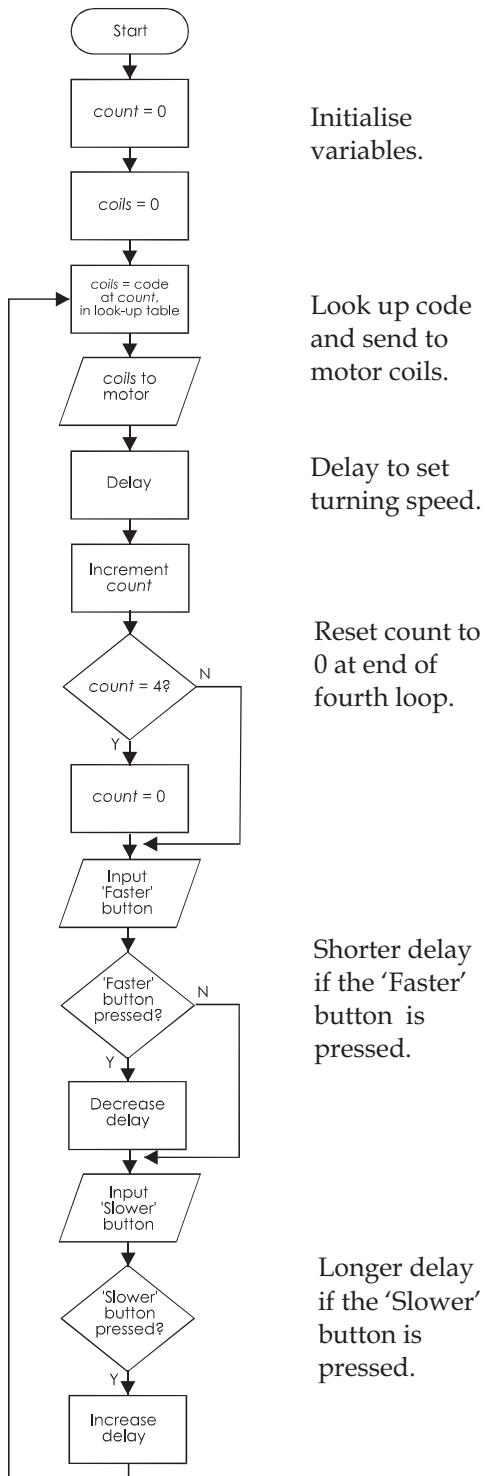

FIGURE 38.21 A routine to control the speed of a stepper motor by using two buttons.
- 17** **Stepper motor** control uses a look-up table which holds the codes for energising the coils (see ‘Rotational Speed Controls’, Topic 33). The flowchart shown in Figure 38.21 consists of a loop in which the count repeatedly runs from 0 to 3. At each stage the appropriate code is looked up in the table and sent to the coils of the motor (using four transistor switches).